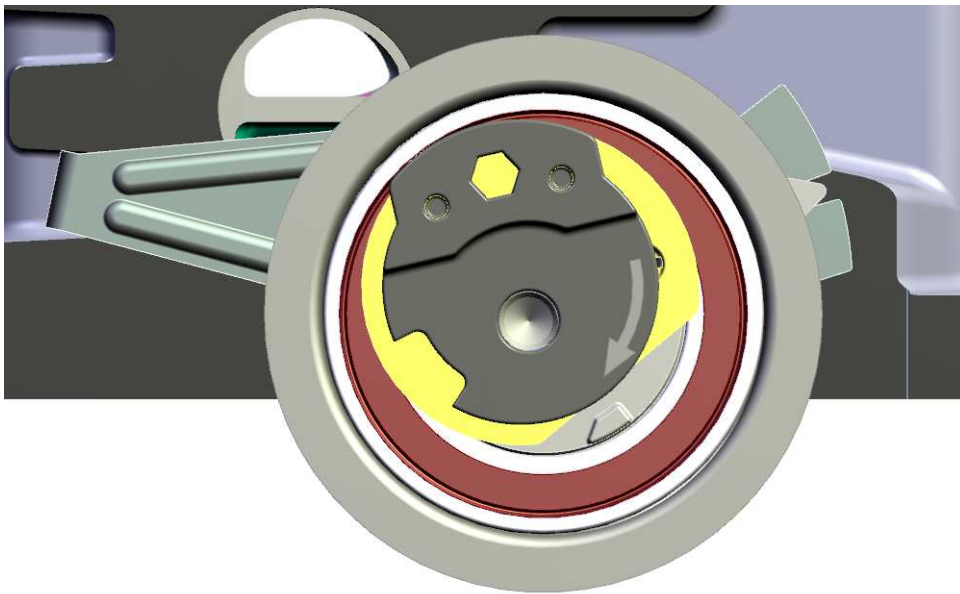

Figure 3 Nominal position of Timing Belt Tensioner
7. Tensioner pointer has to be inside of the installation window, defined to be in the range of -3.0 to $+3.0$ degrees of the nominal position (review Fig.3, 4 and 5). The correct position of Tensioner must be verified by the following
- 3) Is Tensioner arm at nominal position, Figure 3?
- 5) Slowly rotate the installation shaft with the hex Allan key counter-clockwise. This must be a continuous movement, until the arm pointer moves counter-clockwise (from right to left) to align with the base plate notch, Figure 3.
- 8) Rotate the crankshaft at least two (2) complete revolutions clockwise manually, for proper seating of the belt, until the crankshaft is repositioned at the TDC position and re-lock the crankshaft.
- 9) Is Tensioner arm at nominal position, Figure 3?